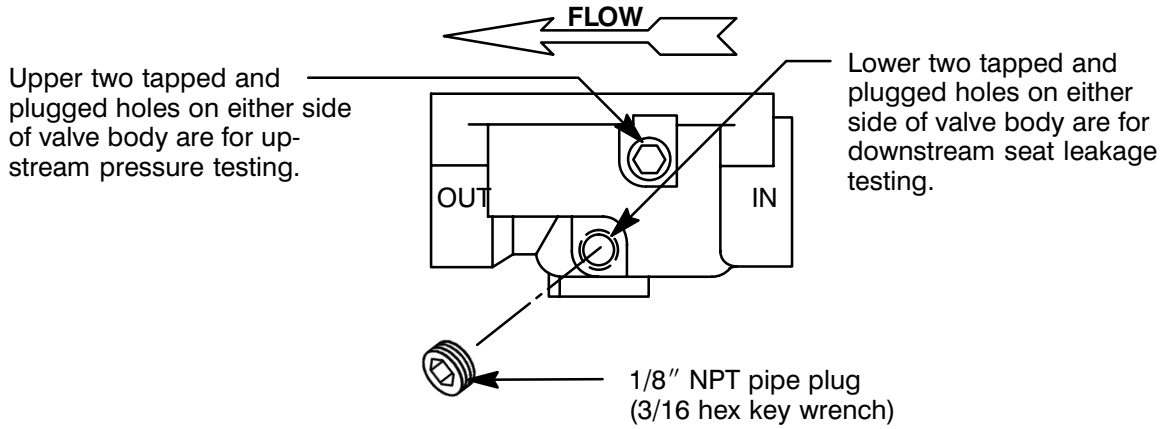

Figure 1. Provisions for pressure and seat leakage testing.
1. Provisions (tapped & plugged holes) for pressure and seat leakage testing not shown in this view, see Figure 1.